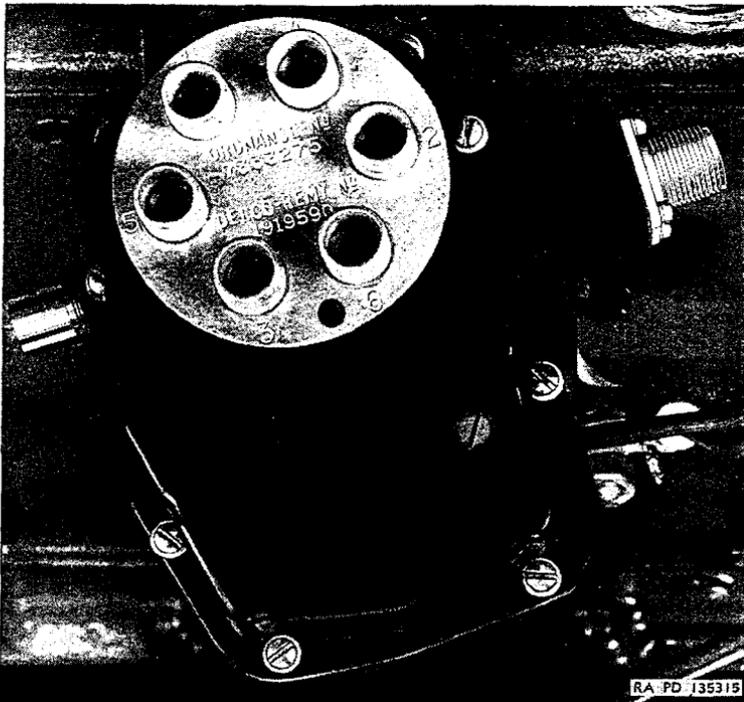
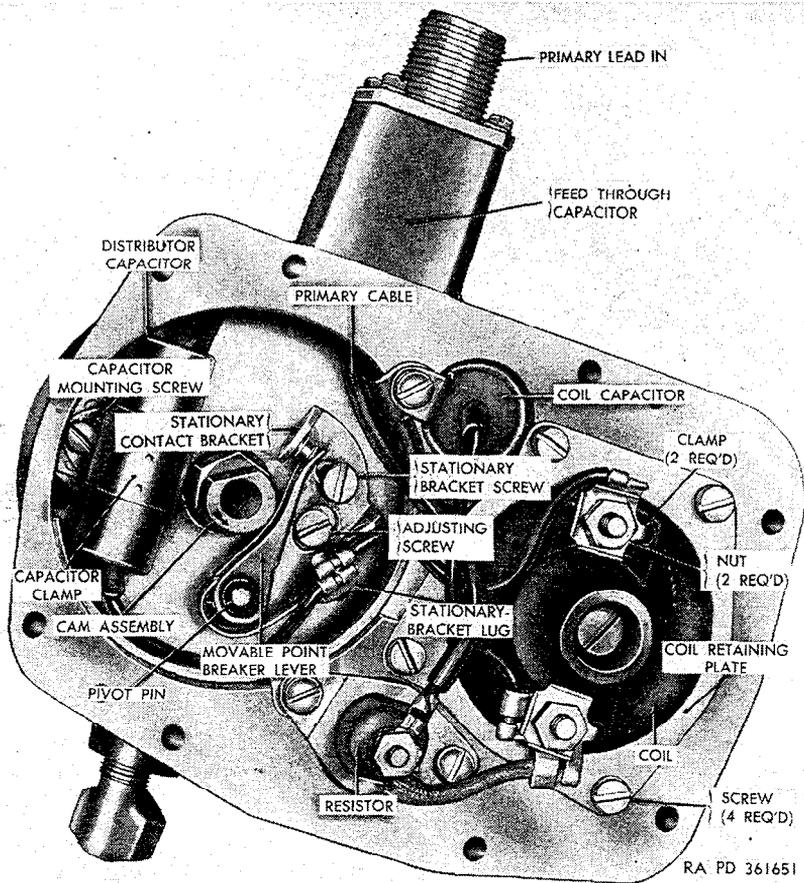
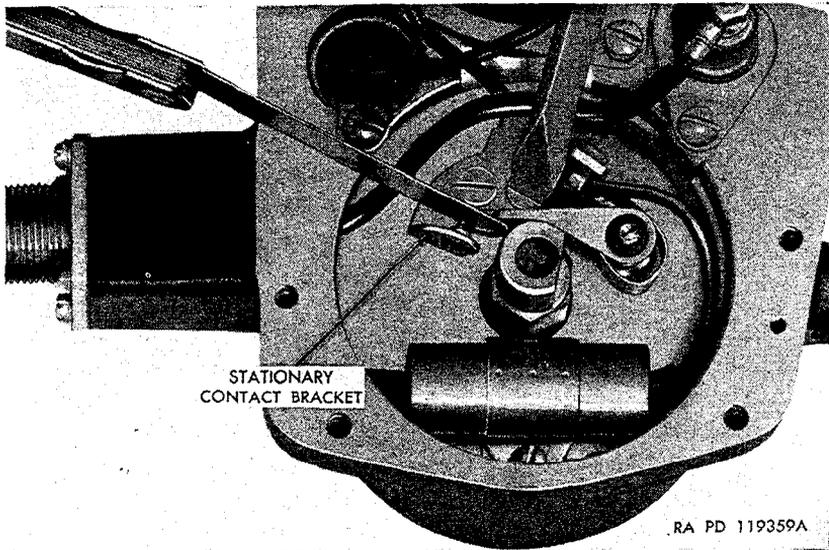

Figure 175. Top view of cover assembly installed on distributor.
Figure 176. Top view of distributor with cover removed.
Figure 178. Checking and setting distributor contact point gap.
(1) Inspection and test.
- (a) *Inspect points.* Remove eight screws and lockwashers securing distributor cover assembly to distributor (fig. 175), and remove cover. Remove and discard cover gasket. Lift rotor from breaker cam assembly (fig. 176), push breaker lever away from cam, and examine contact points for pitting, burning, or wear. If the points are slightly pitted or burned, dress them with a contact point dresser
(a) Turn engine in small increments using starter (by momentarily depressing starter button with ignition switch in the OFF position) until high point of cam assembly (fig. 176) holds breaker lever so as to maintain maximum gap between contact points.
(b) Using a feeler gage (fig. 178), check the maximum gap between the contact points, being sure that the points are correctly aligned and are not sufficiently pitted to cause measurement of the gap between the point faces to be inaccurate. It is important that the gap between the points be 0.022 inch. If the gap requires adjustment, loosen the stationary bracket screw (fig. 176) and turn the adjusting screw (fig. 176) until correct gap is obtained. Tighten stationary bracket screw.
(a) Remove eight screws and lockwashers securing distributor cover assembly to distributor (fig. 175) and remove cover. Remove and discard cover gasket.
- (b) Remove rotor from cam assembly (fig. 176).
- (c) Remove screw and nut securing breaker-plate-capacitor cable terminal and stationary-bracket-to-coil cable terminal to stationary bracket lug (fig. 176), and remove cables from lug.
- (d) Lift breaker lever (fig. 176) from pivot pin.
- (e) Remove stationary bracket screw (fig. 176) and lift stationary bracket from pivot pin.
- (4) *Installation.*
- (a) Position stationary bracket (fig. 176) on pivot pin and install stationary bracket screw. Do not tighten screw.
- (b) Place two drops of engine oil on pivot pin (fig. 176) and position breaker lever on pivot pin so that the breaker lever spring is on the side of the stationary-bracket lug (fig. 176) toward the cam assembly.
- (d) Adjust breaker point gap ((2) above).
(g) Place new gasket on top of distributor housing, position cover on distributor, and install eight screws and lockwashers (fig. 175). Tighten screws.
b. *Distributor Breaker Plate Capacitor (Condenser)* (fig. 176).
c. *Ignition Coil* (fig. 176).
stall eight screws and lockwashers (fig. 175). Tighten screws securely.
- (f) Position distributor primary wire (F) at primary lead-in on rear of distributor and tighten connector (E).
- (g) Position distributor vent line (C) at elbow on front of distributor and tighten nut (B).
- (h) Insert ends of spark plug cables in cable sockets (corresponding to spark plug numbers in distributor cover (fig. 175), and tighten connectors.